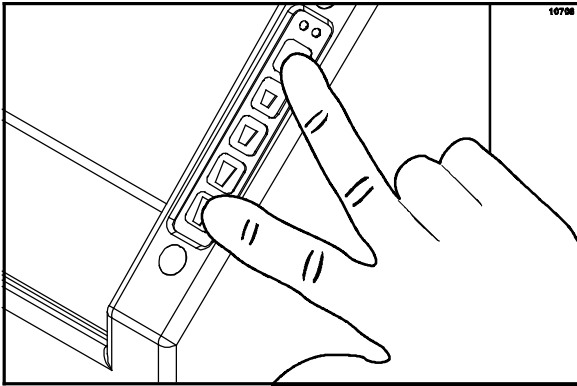

Figure 29
1. Press and hold the Extra Large portion size key and the MENU key of the appropriate dispenser head. (See Figure 29.)